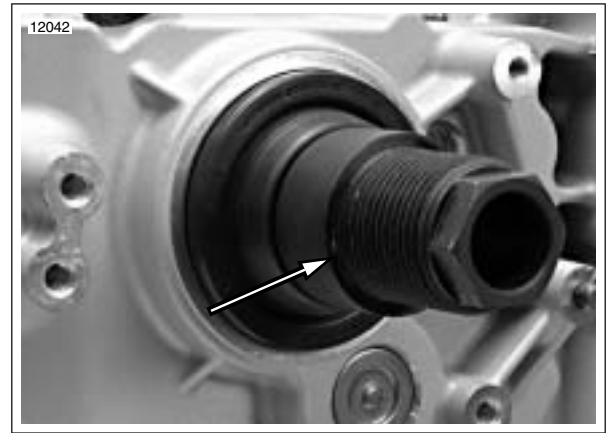

Figure 6-80. Install ADAPTER (Part No. HD-47856-4) (Typical)
4. See Figure 6-80. THREAD ADAPTER (Part No. HD-47856-4) onto end of main drive gear several turns. Do NOT tighten. Doing so could make it difficult to remove adapter after seal has been installed.